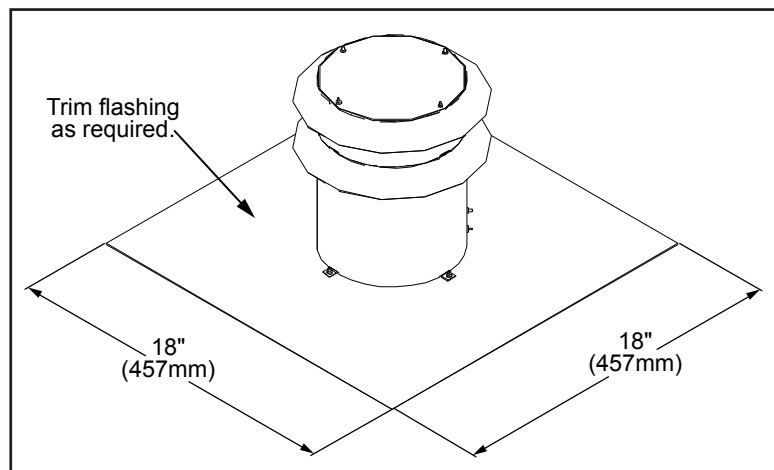

Figure 36: Vertical Vent Cap Dimensions.
4. The Vertical Vent Cap can be installed onto chimneys with flue openings up to 16" (406mm) x 16" (406mm) and the actual flashing is 18"x18" (refer to Figure 36). If the chimney is smaller the cap should be trimmed down and folded over.
5. Apply a bead of Mill-Pac Black sealant to the top section of the $\varnothing 3$ " (76mm) vent collar plate. Slide the $\varnothing 3$ " (76mm) flex vent over the flue collar and secure with three (3) sheet metal screws evenly spaced.